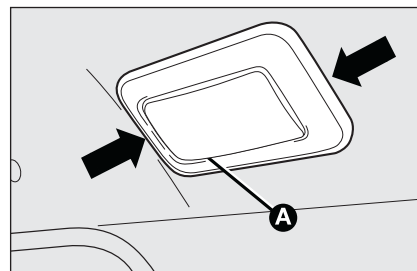

fig. 41
- ☐ remove the ceiling light **A**-fig. 41 levering in the points shown by the arrows;